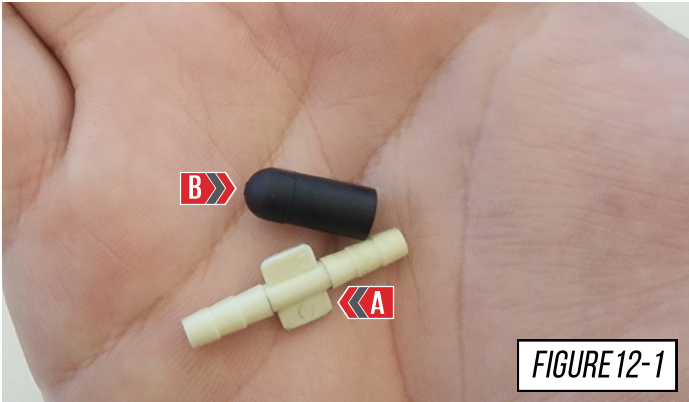

FIGURE 12-1
Gather your provided barbed fitting (A) and cap (B), as shown in **Figure 12-1**.